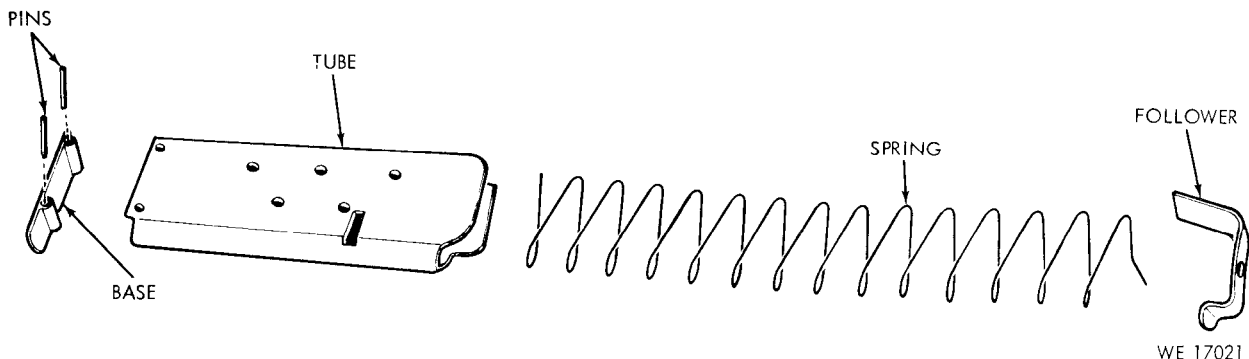

Figure 3-9. Magazine assembly-exploded view.
Improper assembly of magazine. Broken, damaged or bent parts.	Reassemble, fig 3-9. Replace magazine assy, 1, fig B-1.
(1) Operator's repairs to the weapon will be limited to replacement of the magazine. The magazine can be disassembled in accordance with figure 3-9 for cleaning purposes.